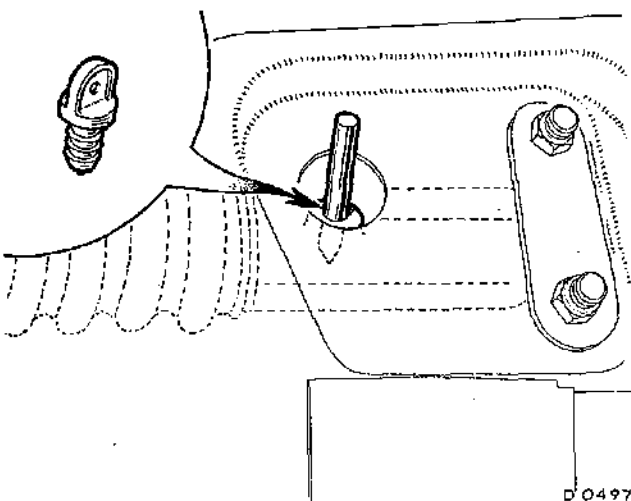

Fig. J.1
- (23) *Mk. II models.* Pull out the plastic plug from the rack casing and insert a locator pin, i.e. a ¼ in. (6 mm.) diameter bolt approximately 2 in. (50 mm.) long into the hole. Centralize the rack until the locator pin fully engages in the rack shaft to lock the centralized assembly in position (see Fig. J.1).